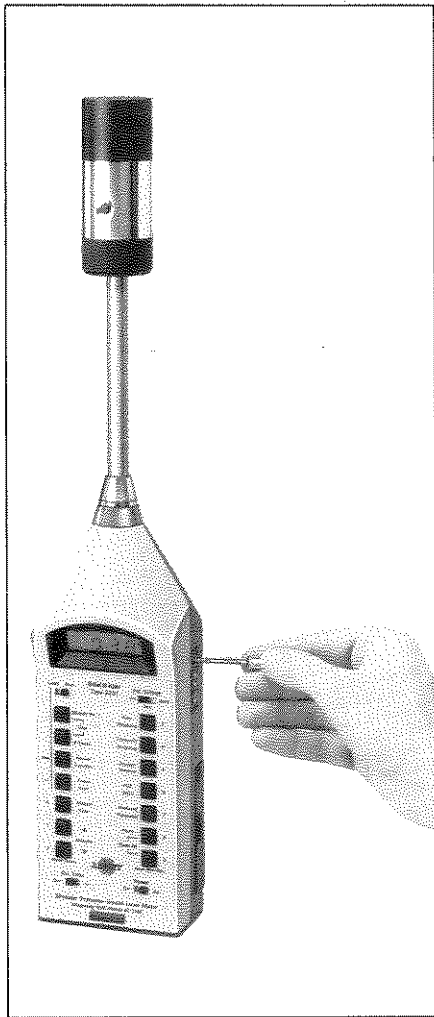

Fig. 2.9. Calibration with Sound Level Calibrator Type 4230
4. Fit the Calibrator with the appropriate Microphone Adaptor and place it over the microphone so that it makes a snug, steady fit. See Fig. 2.9.